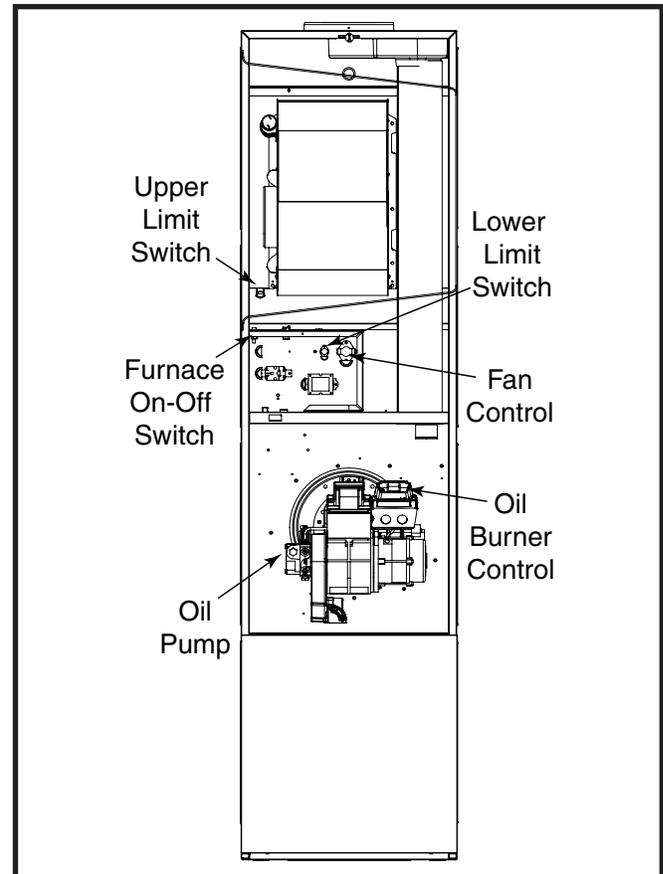

Figure 32. Furnace Controls - Oil Furnace
- Verify the furnace door switch is in the **ON** position. See Figure 32 \(page 26\).
Furnace On / Off Switch: This switch turns electrical power to the furnace on and off. The switch must be set in the ON position for the furnace to operate. If blower operation is not desired, the furnace On-Off switch may be set in the Off position to cut the electrical power to the furnace. See Figure 32.
Limit Control: This furnace is protected by two high temperature safety limit switches. The auxiliary (upper) limit switch and the high temperature (lower) limit switch are automatic reset types. If either limit trips, the burner will shut off. If either limit switch trips off again soon after resetting, set the furnace furnace On-Off switch to the Off position and call your authorized serviceman. See Figure 32.
cycle. The control uses a light sensing transducer to determine if fuel ignition has been successfully attained. If ignition is not attained by the end of the safety ignition timing period, the control shuts the burner off and enters "lock-out." See Figure 32.